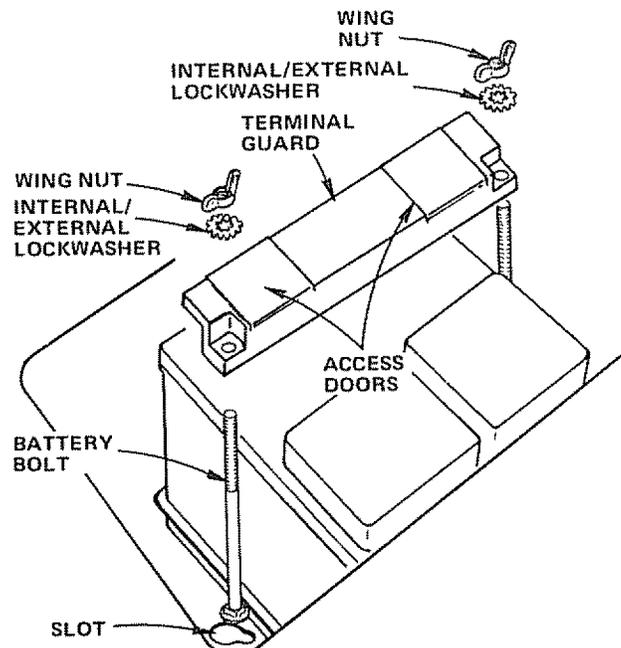

FIGURE 5
- a. Using the slot on one side of the Battery Support (Fig 5) slide Battery Bolt into Frame Slot (head of Bolt down). Fasten the Battery Bolt to the Terminal Guard using Int./Ext. Lockwasher and Wing Nut as shown in Fig. 5.
- b. Assemble the remaining Battery Bolt to other side of Battery Support and fasten Terminal Guard to it with remaining Int./Ext. Lockwasher and Wing Nut. Tighten Wing Nuts securely by hand (Fig. 5).
NOTE: USE TERMINAL ACCESS DOORS (FIG. 5) FOR: